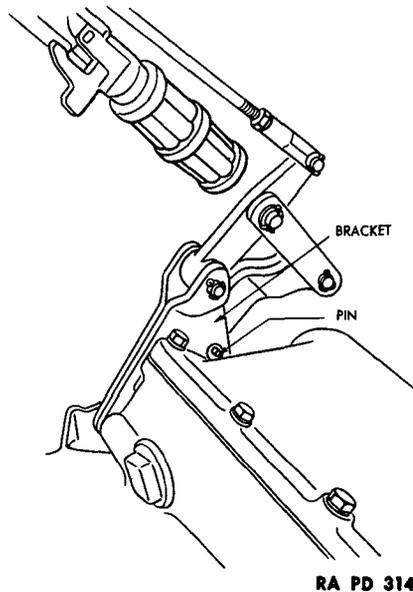

Figure 97 – Adjusting Steering Linkage
(2) **ADJUSTING LINKAGE.** Check to see that pull-back spring is holding lever on differential housing, so that pin in lever is tight against side of hole in holding bracket (fig. 97). Adjust length of connecting rod to permit free assembly of pin at steering lever by loosening lock nut and rotating clevis. Turn clevis one-half turn tighter to assure taking out all slack, and tighten lock nut. Connect rod to lever on cross shaft by installing clevis pin, cotter pin, and tighten lock nut.